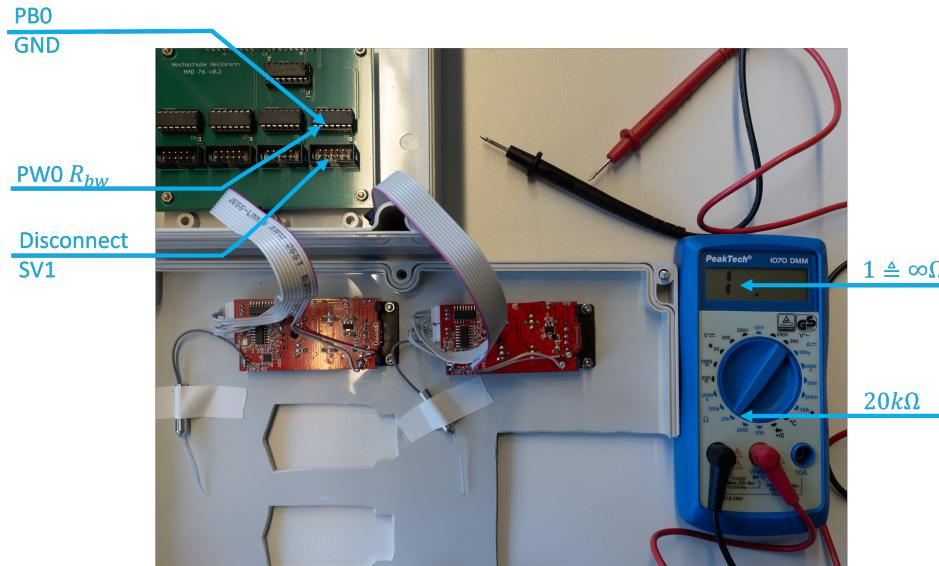

Figure 4: Exercise 1: Measure R_{bw} with a multimeter
C.4.4.1 Measure the resistance values R_{bw} of the digital potis of RC 1 with a multimeter (see Figure 4)